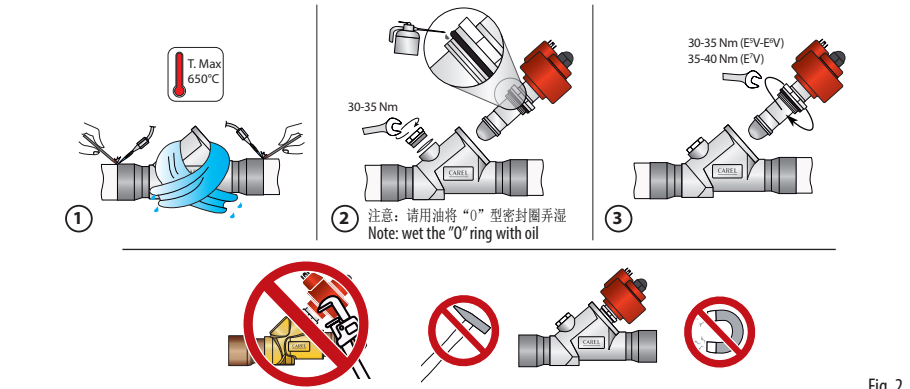

Fig. 2
- ESV, E6V, E7V阀必须通过将铜制接头钎焊到冷凝器出口上（IN）和蒸发器入口管上（OUT）与回路连接。如图2的说明：
- The ESV, E6V, E7V valves must be joined to the circuit by braze welding the copper fittings to the condenser outlet (IN) and evaporator inlet pipes (OUT). Proceed as indicated in Fig. 2.